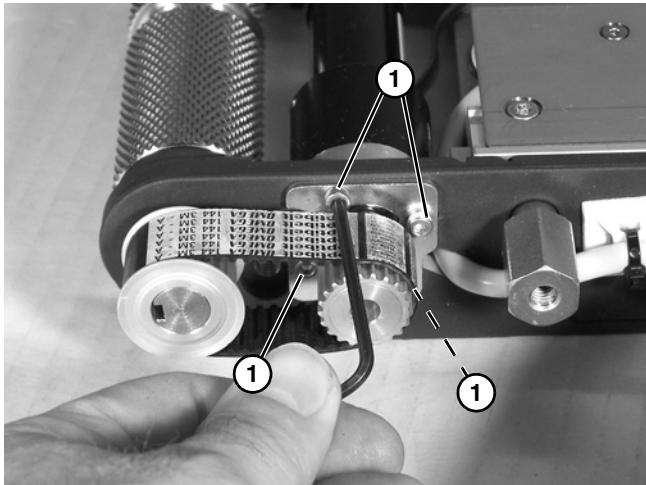

**Figure 29**
2. Remove inframe drive side cover (**Figure 29, item 1**) by removing two head plate fastening screws (**Figure 29, item 2**).